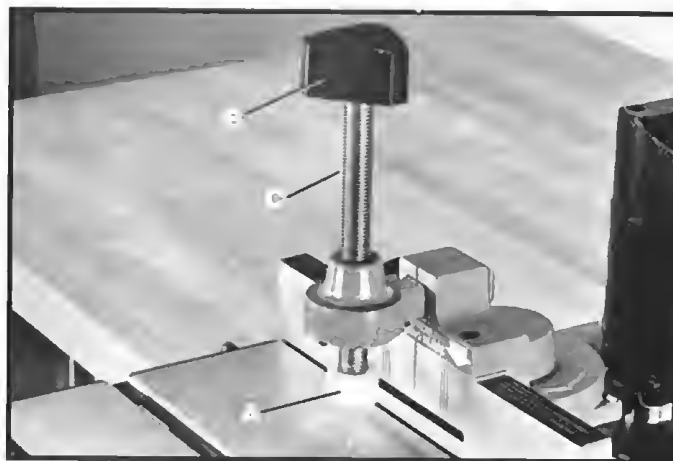
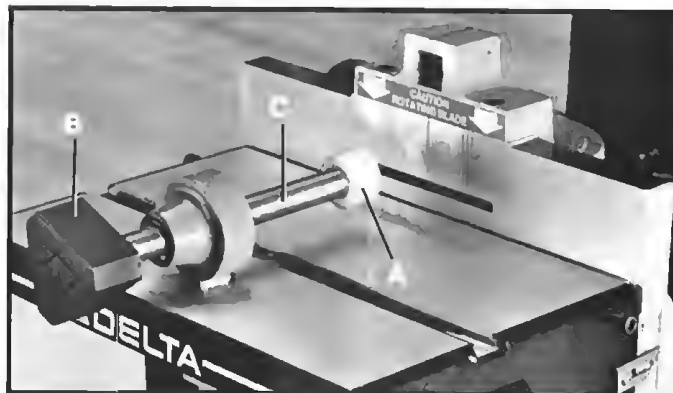

Fig. 15
Fig. 16
The dual position work clamp can be used in the vertical position, as shown in Fig. 15, or in the horizontal position, as shown in Fig. 16.
To instantly position the clamp (A) Fig. 15 and Fig. 16, against the workpiece, simply turn the handle (B) counter-clockwise one-half turn and rapidly slide the threaded shaft (C) until the clamp (A) is against the work. Then tighten the clamp (A) by turning the handle (B) clockwise.